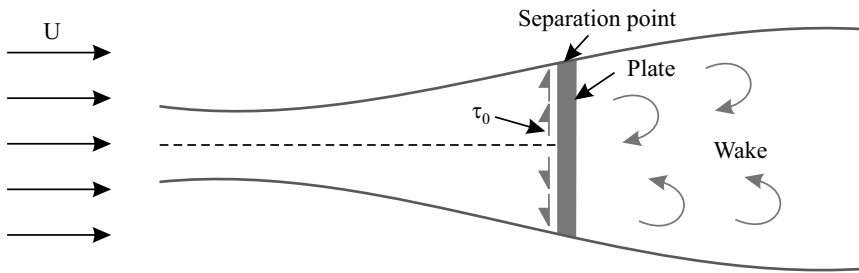

Fig. 14.4. Thin plate placed perpendicular to flow.
- When the same plate is held with its axis *normal* to flow direction (Fig. 14.4), the friction drag will be zero ($\theta = 0$) and *the flow separates at the edge forming a turbulent wake behind the plate*. In this case the total drag will be *due to the pressure force only*.